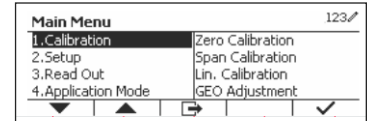

Figure 3
1. Long press the  button to enter main menu. Press the softkey corresponding to the ✓ icon to enter the Calibration submenu. (See Figure 3)